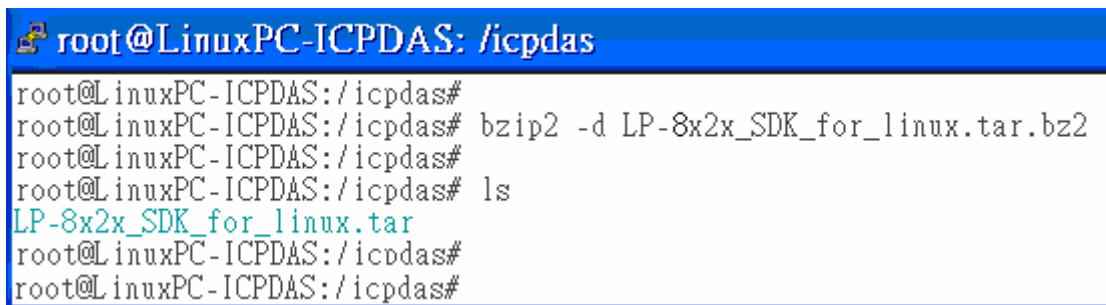
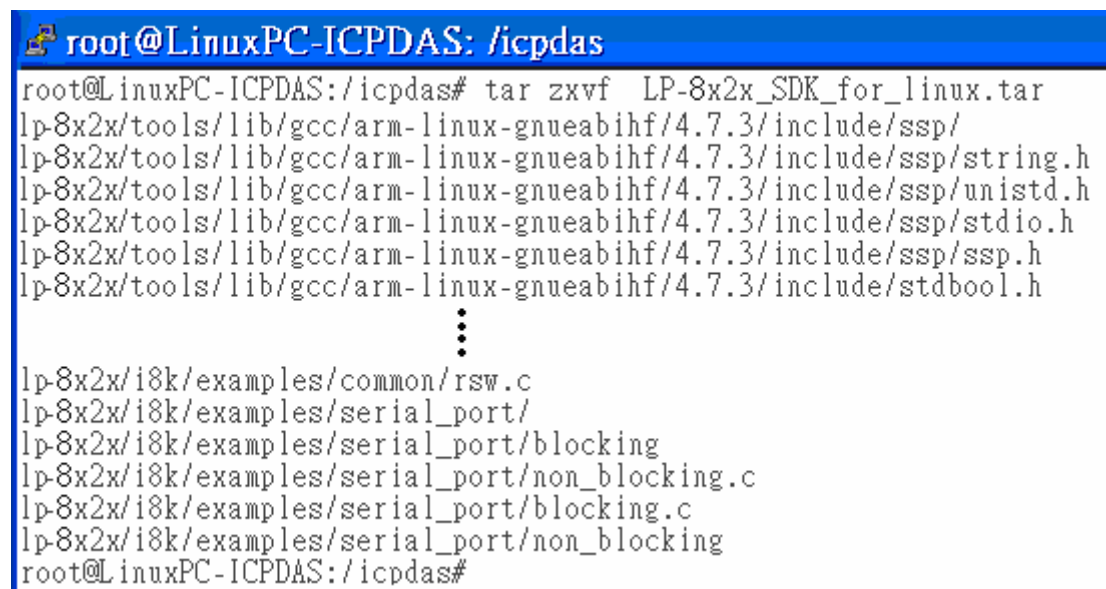

Fig. 2-4
Fig. 2-5
3. Try the following command to decompress file (refer to Fig.2-4 and Fig.2-5).